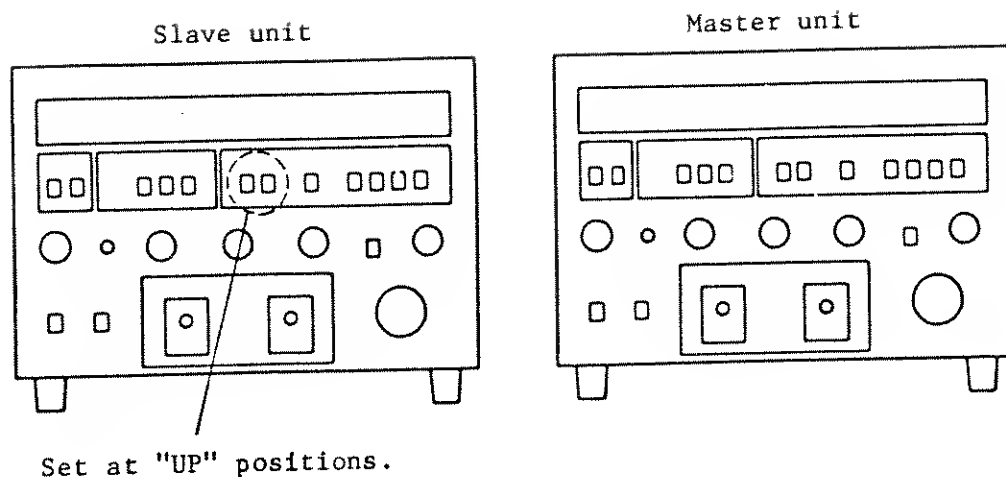

Figure 2-15-2
2. Set both the C.C RANGE push buttons for each of the slave units, 60 A and 6 A, at "UP" position, as shown in Fig. 2-15-2.